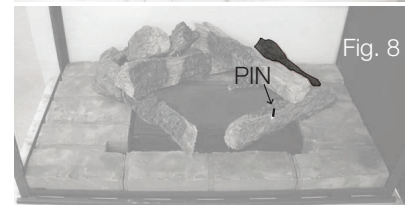

Fig. 8
- Place log #8 on the hearth pad and let it rest against the notch in the side of log #7 (**FIG.8**)